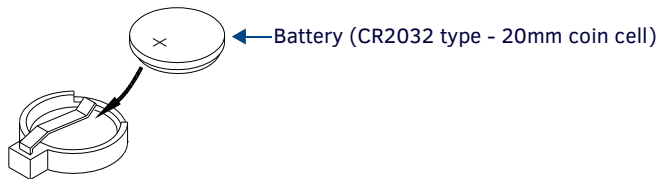

FIG. 13 Lithium battery and socket
- When DC power is on, the batteries (FIG. 13) are not used.